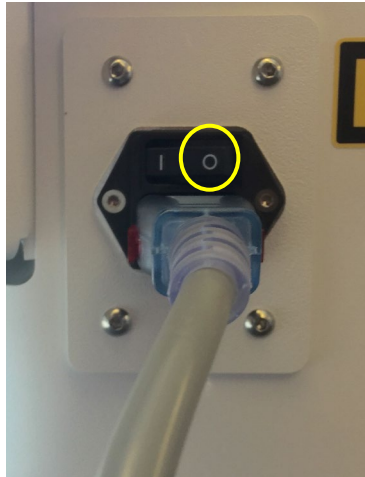

Figure 3-49. Power Off Position
- Turn the master power switch on the KXL base to the “Off” position as shown in Figure 3-49.